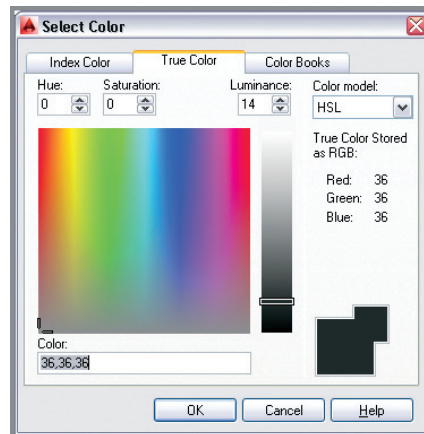

FIGURE 15.31 Selecting a very dark table cell background color
11. Click the words Room Schedule to select merged cell ABC1. Open the Table Cell Background Color menu in the Cell Styles panel, and choose Select Colors. Select the True Color tab in the Select Color dialog box that appears. Type **36,36,36** in the Color text box and press Tab (see Figure 15.31). Click OK.